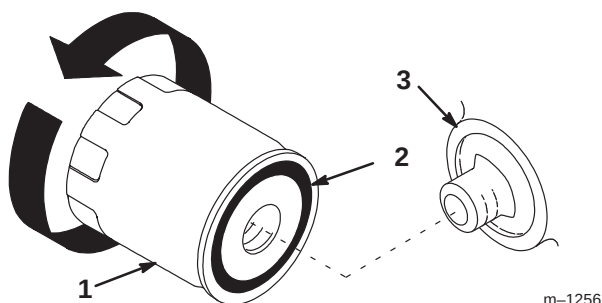

Figure 17
2. Remove the old filter and wipe the filter adapter (Fig. 17) gasket surface.
4. Apply a thin coat of clean oil to the rubber gasket on the replacement filter (Fig. 17).
5. Install the replacement oil filter to the filter adapter. Turn the oil filter clockwise until the rubber gasket contacts the filter adapter, then tighten the filter an additional 2/3 to 1 turn (Fig. 17).